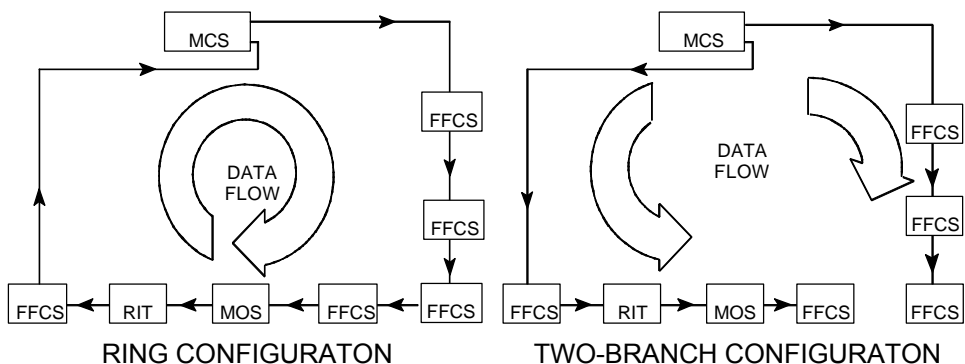

Figure 1-1. VIS Configuration Types
Each version of the AN/VIC-3(V), Vehicular Intercommunication System (VIS) is made up of members of a family of common boxes interconnected by highway cables in either a ring or two-branch configuration as shown in figure 1-1. Specific configuration details depend upon the type of vehicle into which the system is installed. Each system contains one Master Control Station (MCS), up to six Full Function Crew Stations (FFCS) and one Loudspeaker (LS). Up to four Monitor Only Stations (MOS) and/or up to two Radio Interface Terminals (RIT) (if one to four additional radios are being utilized) may also be added. Each system also contains headsets for each FFCS and MOS in the configuration, which vary in type depending upon the specific vehicle configuration requirements. (For specific characteristics of the individual components for the VIS refer to Section III, Chapter 1) Neither the ring or two-branch configuration relies on individual units (boxes) to re-transmit data. If any unit within the system becomes inoperable it does not necessarily interfere with the operation of the rest of the system. The ring configuration provides additional survivability by an automatic reconnect feature that changes from the ring configuration to the two-branch configuration if a highway cable is broken or disconnected.